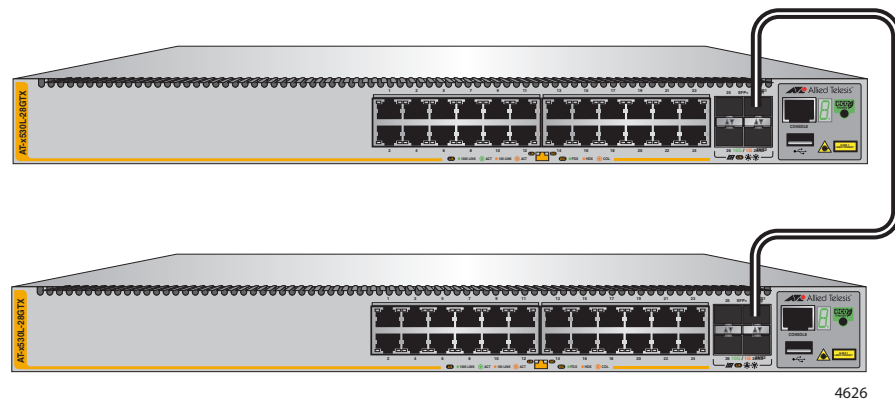

Figure 31. Invalid Stack Trunk with One Port Used Per Switch
**Example 2** Trunks must have a minimum of two ports used per switch. Figure 31 is an example of an invalid stack trunk with one port used per switch.